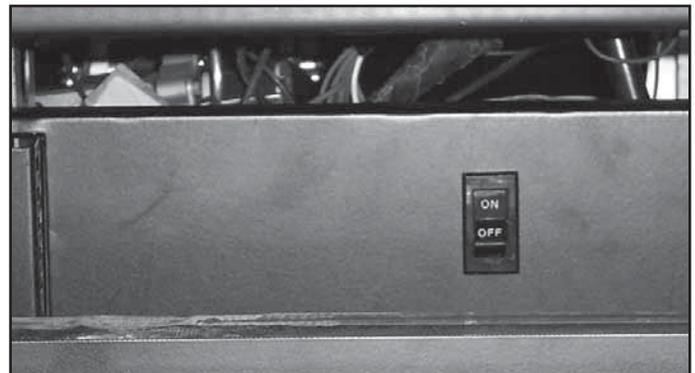

Figure 2.2 Climate Control Switch
- Your appliance is equipped with a Climate Control Switch (Figure 2.2).